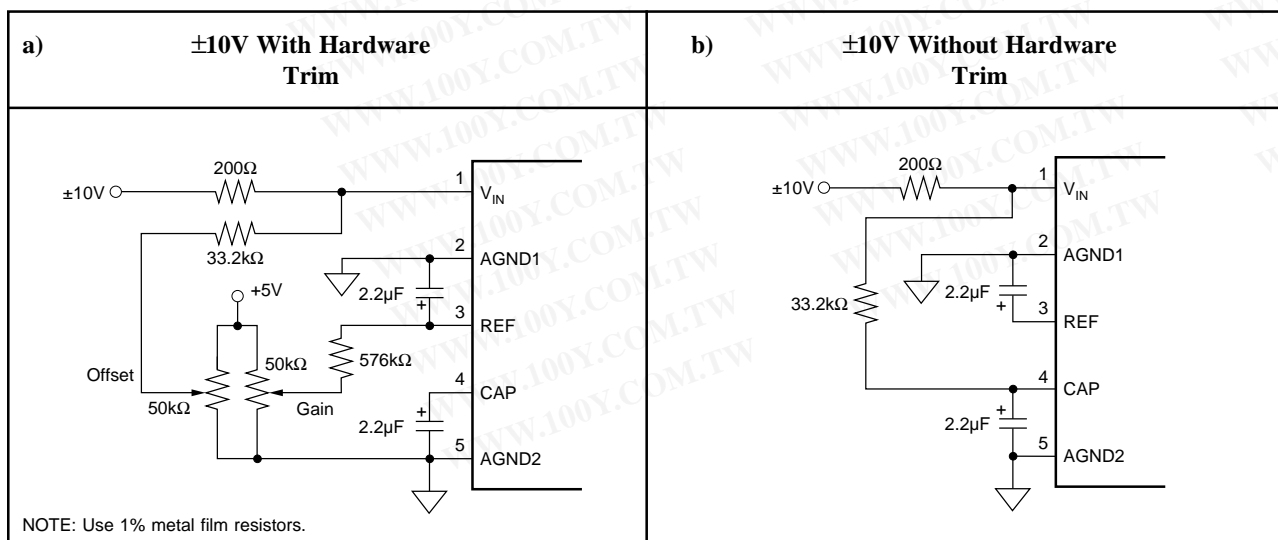

FIGURE 6. Circuit Diagram With and Without External Resistors.
The ADS7805 offers a standard  $\pm 10\text{V}$  input range. Figure 6 shows the necessary circuit connections for the ADS7805 with and without hardware trim. Offset and full scale error(1) specifications are tested and guaranteed with the fixed resistors shown in Figure 6b. Adjustments for offset and gain are described in the **Calibration** section of this data sheet.